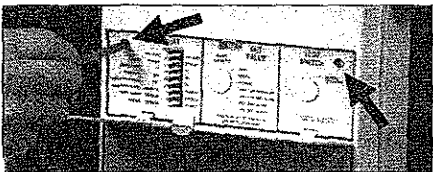
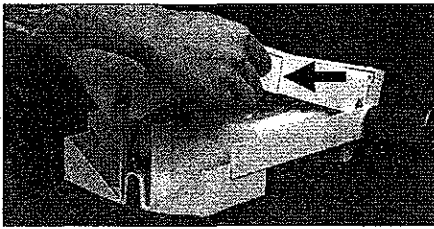

Figure 9
Figure 11
7. Remove the four (4) 6-32x3/8" Phillips pan-head screws as illustrated in Figures 9 and 10 (arrows indicate screw locations). Close the rear panel door.
8. Pull straight up on the rear enclosure (see Figure 11) to separate it from the front of the Monitor. The arrow in Figure 11 illustrates how to hold the blank insert in place while removing the rear enclosure. Remove and set aside the blank plastic insert.
3. Place the rear enclosure onto the front enclosure, ensuring that the plastic blank insert is held into position as illustrated in Figure 11. Install the rear enclosure by installing the four (4) 6-32x3/8" Phillips pan-head screws (see Figures 9 and 10).